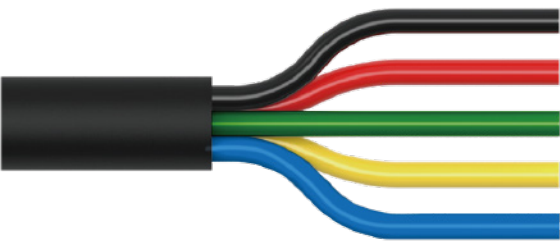

FIG. 1
Determine where you want to install the lights on the grille. The bracket installation location can refer to Figure 1.
3. Connect the **BLUE** or **YELLOW** or **GREEN** wire to the desired upfitter switch relay. See FIG. 1 for individual ACC wire function. When the upfitter switch is activated, that light and pattern will trigger.
1. See FIG. 1 for individual ACC wire function.